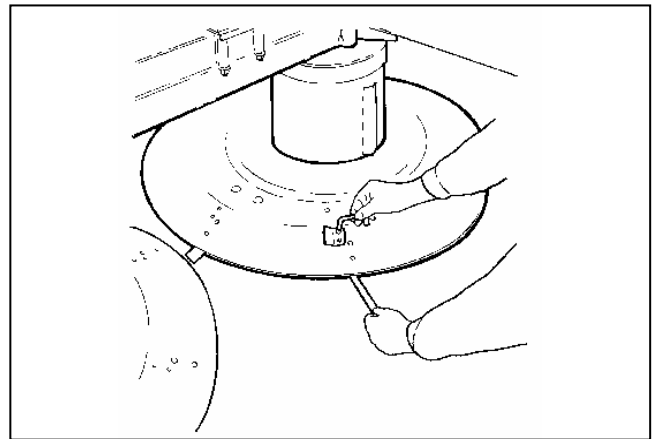

Fig. 32
- FIG. 32**      Bolt the carriers to the rotors.